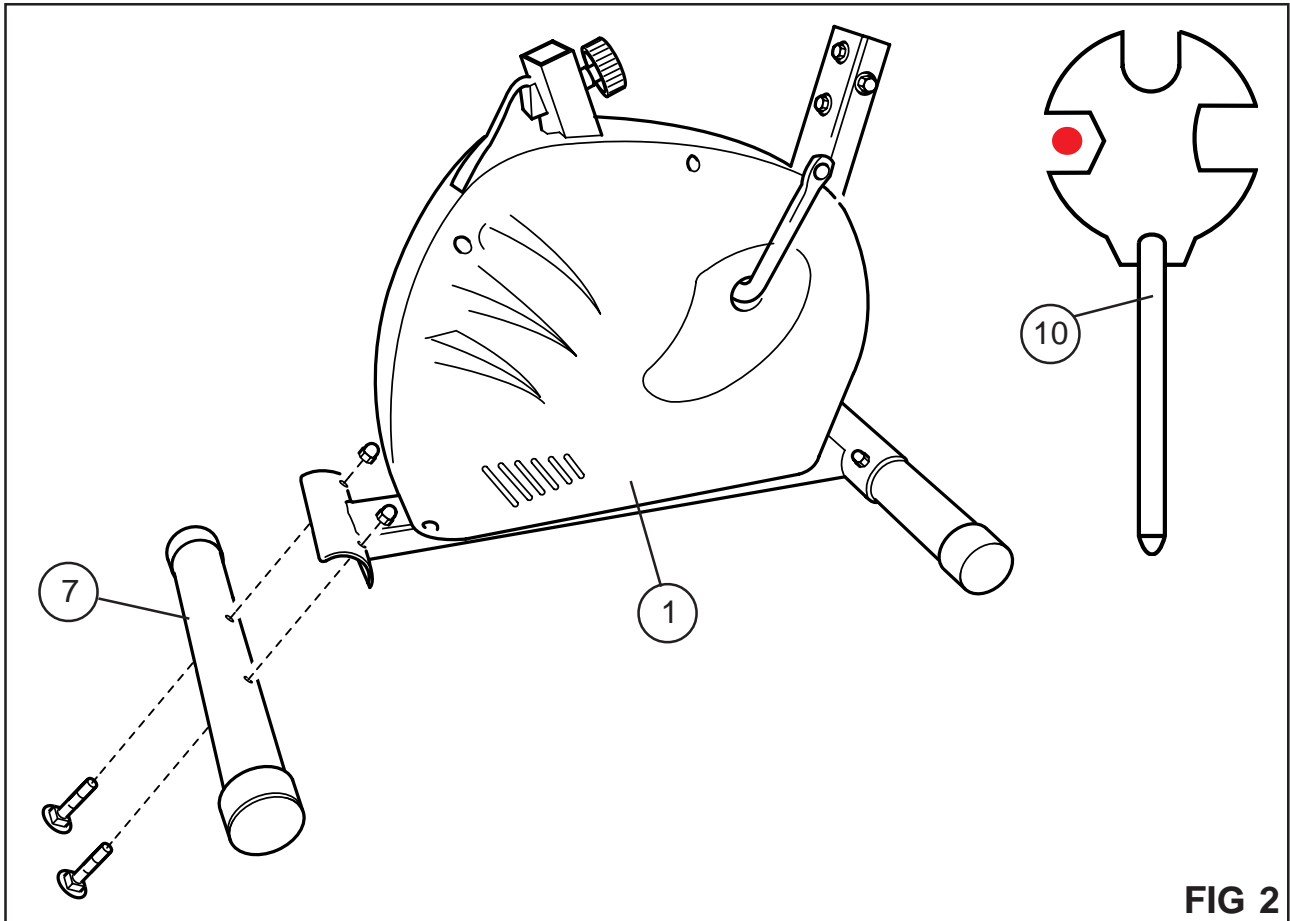

FIG 2
1. Remove the nuts, bolts and washers from the rear support tube (7).
2. Tilt the main body (1) forwards and fit the rear support tube (7) onto the main body (fig 2).
3. Replace the nuts, bolts and washers and tighten using the spanner (10) supplied.